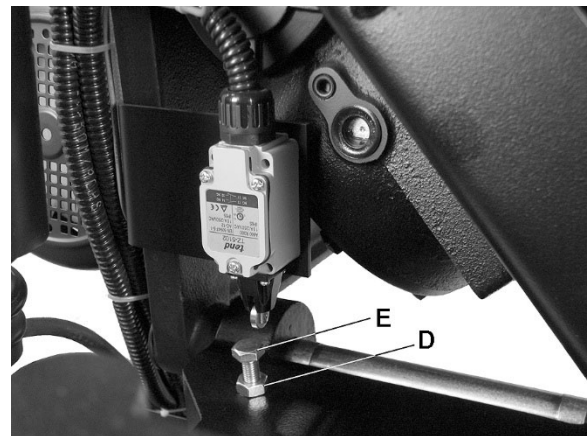

Figure 8-12
The lower limit switch must be set so that blade stops after workpiece has been cut through. To adjust, loosen jam nut (D, Figure 8-12) and turn stop screw (E) as required. Retighten jam nut.